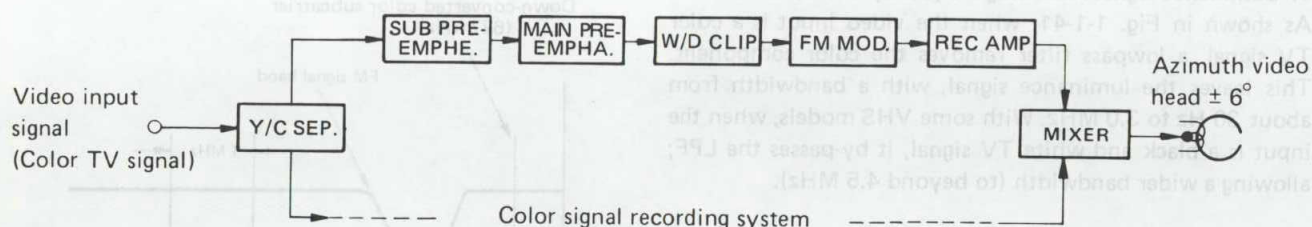

Fig. 1-1-44 Luminance signal recording system
Frequency modulation (FM) is used for the luminance signal recording system. A simplified block diagram of the system is shown in Fig. 1-1-44.